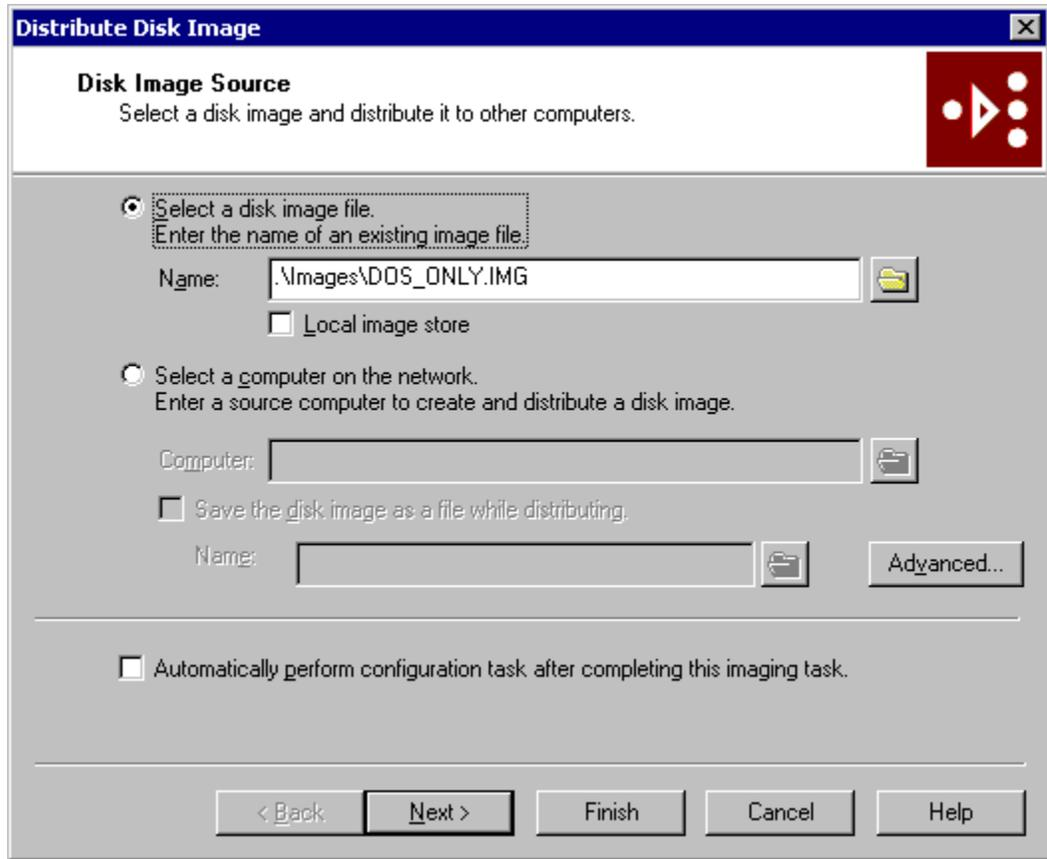

Figure 16: Deploy Image task created for boot from SAN deployment
- d. Select the **Deploy Image - .\Images\DOS_ONLY.IMG** task and press the UP arrow three times to place it between the two **Power Management – (Reboot)** tasks. This places the Deploy Image task in the location of the deleted **Run Script – Set Disk Partition** task as shown in Figure 16.